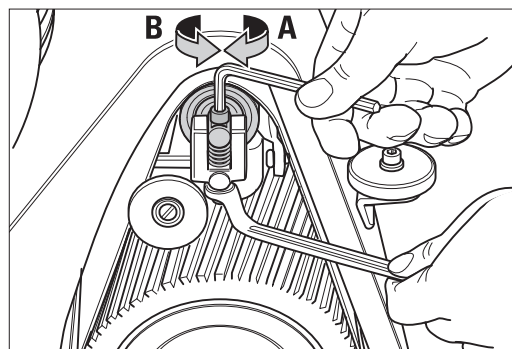

Fig. 33 Adjust the belt tracking at the setting screw of the drive unit (see description on the left).
- 5 However, if readjustment is necessary, release the lock nut at the drive unit and adjust the hexagonal socket head screw (Fig. 33).